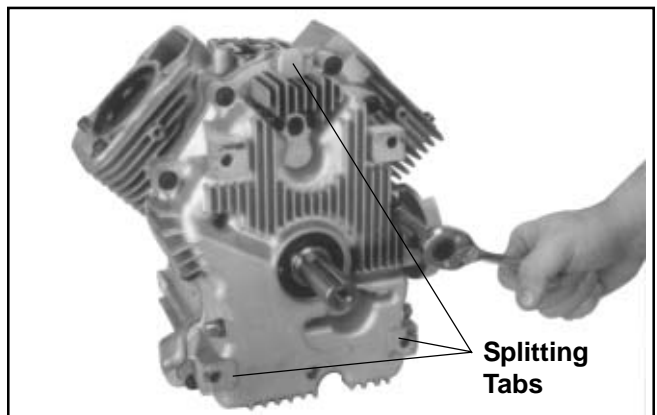

Figure 9-49. Removing Oil Pan Fasteners.
1. Remove the ten hex. flange screws securing the oil pan to the crankcase. See Figure 9-49.
2. Locate the splitting tabs cast into the perimeter of the oil pan. Insert the drive end of a 1/2" breaker bar between the splitting tab and the crankcase and turn it to break the RTV seal. See Figure 9-49. Do not pry on the sealing surfaces as this can cause leaks.